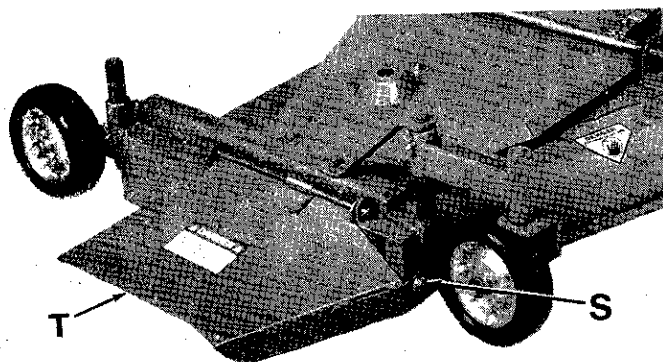

FIG. 8
1. Remove bolt (S), flat washer, and lock washer from front of mower deck. (See Fig. 8)
2. Put strap of grass deflector (T) over hole in mower deck and insert bolt (S) with flat washer and lock washer to secure grass deflector(T) to mower deck.